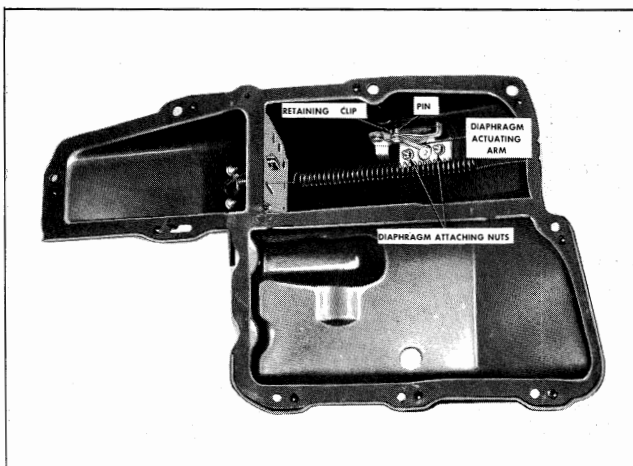

Fig. 4-4 Air Inlet Blocking Diaphragm Parts
1. Remove actuating arm from valve blocking linkage by removing retaining clip and remove arm from pin (Fig. 4-4).